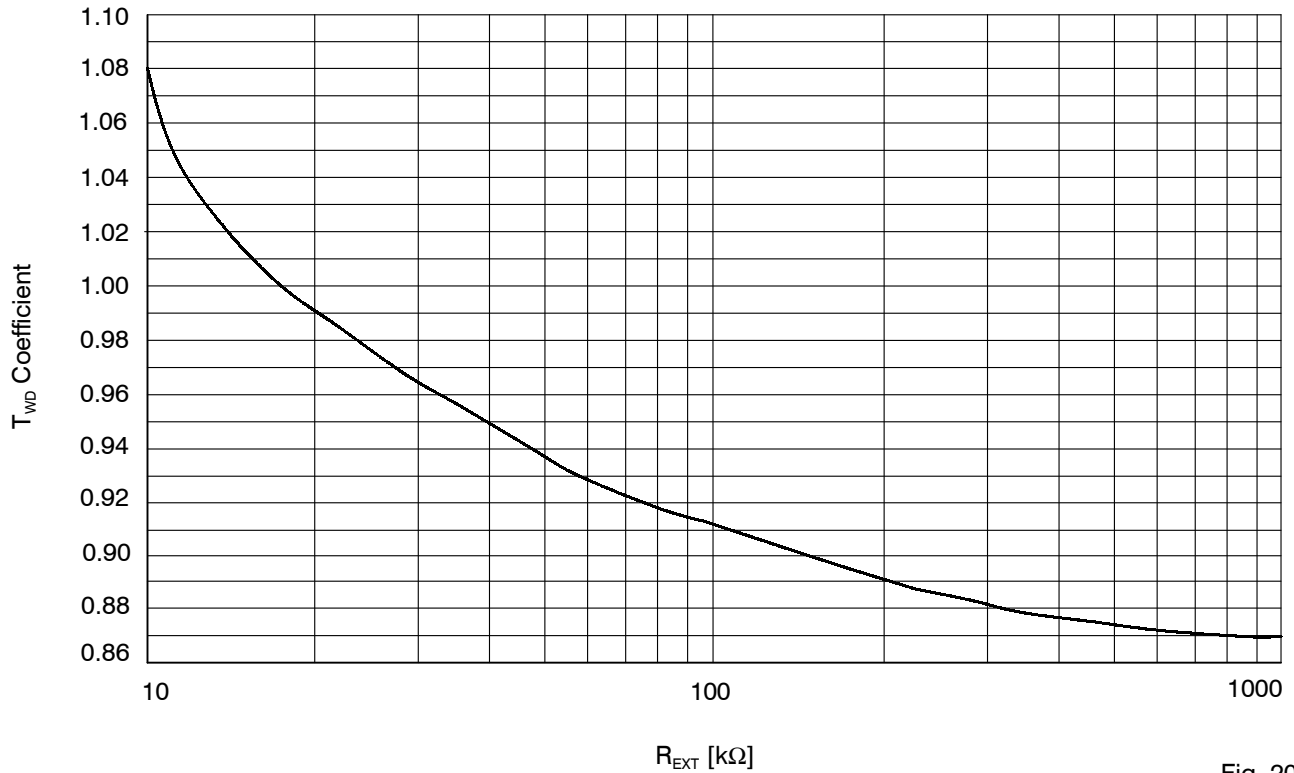
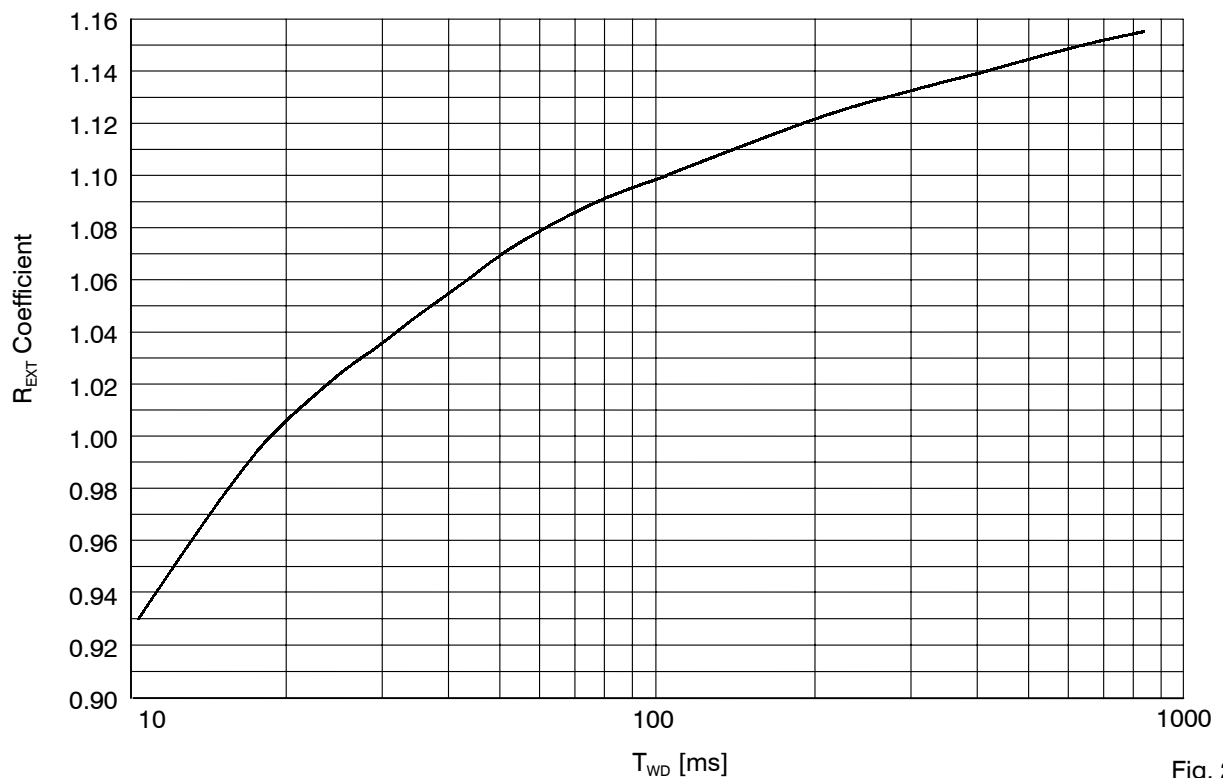

Fig. 20
Fig. 21
Related to curves (Fig. 10 to Fig. 21), especially Fig. 20 and Fig. 21, the relation between T_{WD} and R_{EXT} could easily be defined. Let us take an example describing the variations due to production and temperature:
2. Related to Fig. 21, the coefficient (T_{WD} to R_{EXT}) is 1.025 where R_{EXT} is in k Ω and T_{WD} in ms.